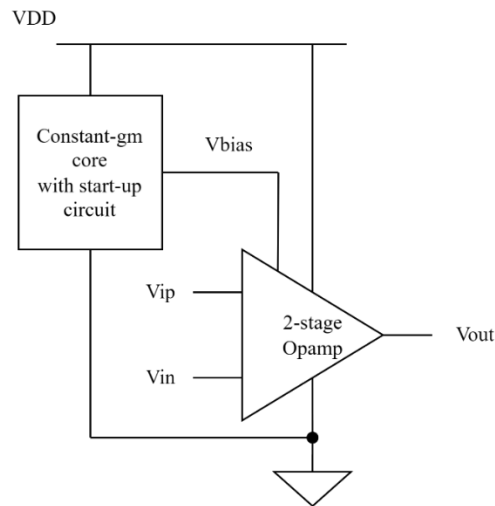
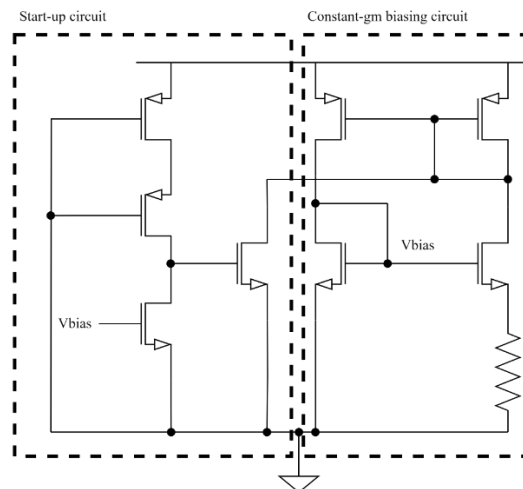

Fig. 3. Operational amplifier with constant-gm biasing
Fig. 4. Constant-gm core with start-up circuit
- Design the opamp based on the structure shown in Fig. 3. and Fig. 4. and also the analysis you did in the previous parts.